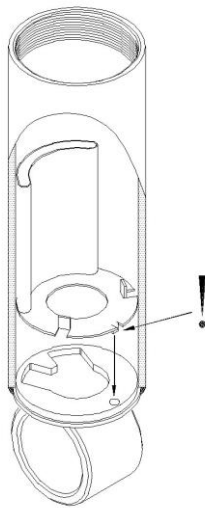

Figure 6-38; Placing the suction tube
In case of a horizontal damper firstly mount the suction tube (78). Ensure the suction tube is positioned correctly. The suction orifice must be situated on the bottom side. For this reason the bottom plate of the suction tube is fitted with a bent lip. This should engage in a blind recess drilled in the bottom (Figure 6-38).